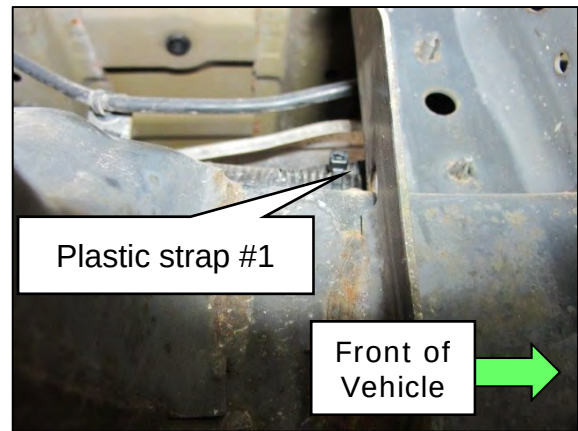
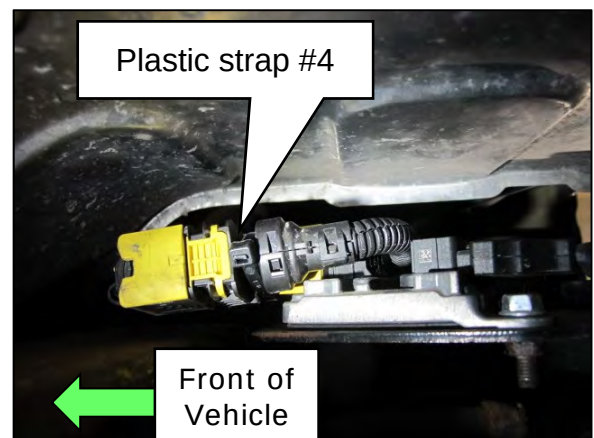

Figure 57
Figure 59
42. Working from the rear of the vehicle toward the front, secure the jumper harness to the existing chassis harness on the RH side frame rail using four (4) plastic straps (Figure 57-Figure 59).
- Four (4) plastic straps (zip-ties) will be required.
- Figure 57 is from the RH side frame rail above the leaf spring eyelet.
- Figure 59 is from under the vehicle facing toward the RH side frame rail (inner) above the SCR catalyst (The plastic strap is around the Outlet NOx sensor control unit connector and the chassis harness connector is tying it to the chassis harness).